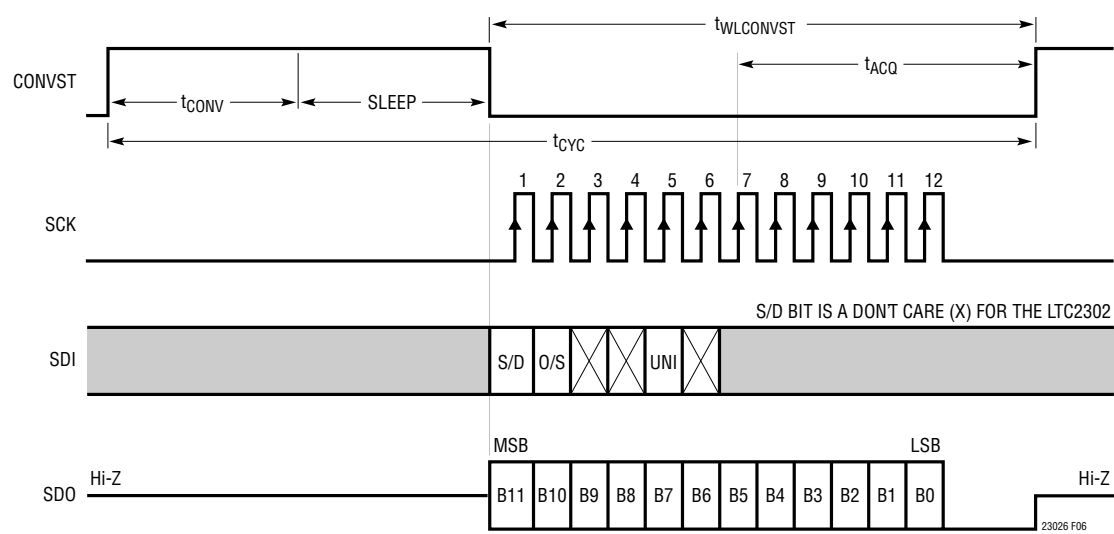

Figure 6. LTC2302/LTC2306 Timing with a Long CONVST Pulse
The software compatible LTC2302/LTC2306/LTC2308 family features a 6-bit  $D_{IN}$  word to program various modes of operation. Don't care bits (X) are ignored. The SDI data bits are loaded on the rising edge of SCK, with the S/D bit loaded on the first rising edge (see Figure 6 in the Timing and Control section). The input data word for the LTC2306 is defined as follows:
The start of a conversion is triggered by the rising edge of CONVST. Once initiated, a new conversion cannot be restarted until the current conversion is complete. Figures 6 and 7 show the timing diagrams for two different examples of CONVST pulses. Example 1 (Figure 6) shows CONVST staying HIGH after the conversion ends. If CONVST is high after the  $t_{\text{CONV}}$  period, the LTC2302/LTC2306 enter sleep mode (see Sleep Mode for more details).